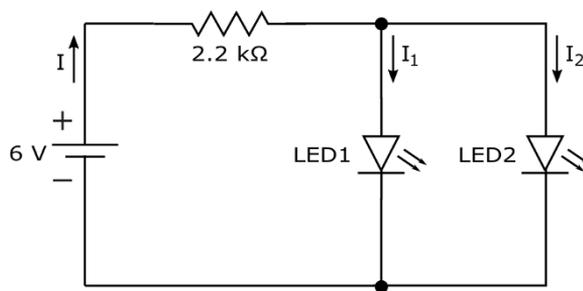
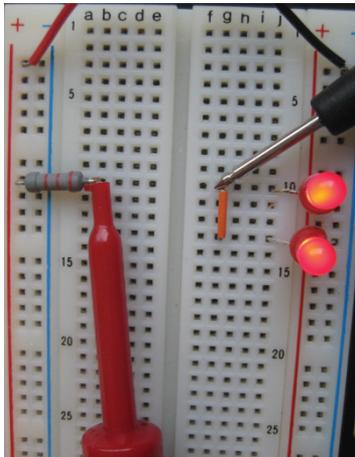

FIGURE 4-3: Light bulbs are often arranged in a parallel circuit so if one burns out, the rest stay lit.
FIGURE 4-5:
There’s a way to fix the problem of all components in a series circuit blacking out when one component fails. You can wire the components using parallel connections — such as those in the circuit shown in Figure 4-3. With a parallel circuit, current can flow in multiple paths, so even if several baseballs take out bulbs in your sign, the rest of it stays lit. (Of course, you may be left with a glowing sign reading, “BEST FOO I OWN.” There are pros and cons to everything.)
Here’s how the parallel circuit in Figure 4-3 works: Current flows from the positive battery terminal, and then splits at the junction that leads to the parallel branches of the circuit, so each LED gets a share of the supply current. The current flowing through LED1 doesn’t flow through LED2. So if your restaurant sign has 200 LEDs wired in parallel and one burns out, light still shines from the other 199 LEDs.
- » **Resistor current (I):** Break the circuit between the resistor and the two LEDs, and insert your multimeter to reconnect the circuit, as shown in Figure 4-5. Because you're placing the multimeter in series with the resistor, you're measuring the current flowing through the resistor. This current is labeled I (refer to Figure 4-3).
- » **LED1 current (I_1):** Remove the multimeter and reconnect the resistor to the LEDs. Then disconnect the positive lead of LED1 from the resistor. Insert the multimeter leads into the circuit, as shown in the photo on the left in Figure 4-6. Because the multimeter is in series with LED1, you're measuring the current that flows through LED1. This current is labeled I_1 (refer to Figure 4-3).
- » **LED2 current (I_2):** Remove the multimeter and reconnect LED1. Then disconnect the positive lead of LED2 from the resistor. Insert the multimeter into the circuit in series with LED2, as shown in the photo on the right in Figure 4-6. (Note that I removed the lower orange jumper to disconnect LED2 from the resistor, and then inserted my multimeter at that opening in the circuit.) You're measuring the current that flows through the LED2, or I_2 (refer to Figure 4-3).